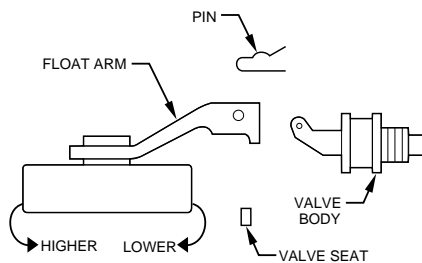

Fig. 11
The Model 49WS is controlled by a float valve. Turning off the furnace will not affect the water flow until float level is achieved. (See Fig. 11.)
- Inspect the float assembly. Remove the float arm from the valve body by sliding out the pin and lifting off the float arm. (See Fig. 11.) Inspect the rubber valve seat located inside the float arm. If the seat appears to be nicked or worn, invert the seat or replace it with the spare valve seat located on the float arm. Inspect the water opening in the valve body. If the opening is clogged, use a pin to remove the obstruction. Remove any accumulated deposits from the valve body and float arm.